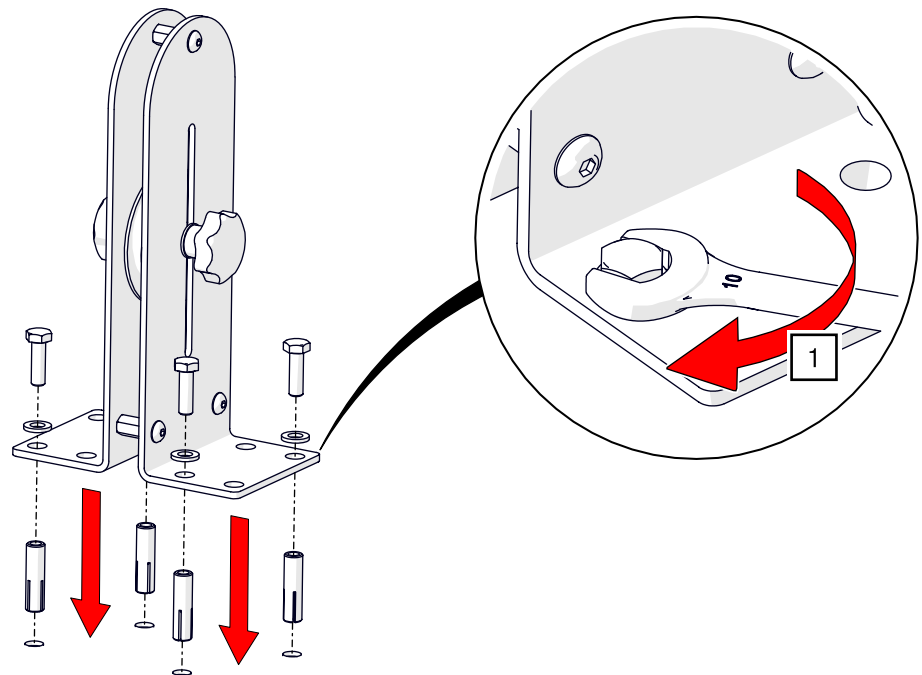

Fig. 87: Screwing counter-tension pulley to the floor
1. Screw the counter-tension pulley to the floor at the position exactly vertical below the cord exit of the track using mounting material suitable for the substrate (assembly according to the manufacturer's specifications; example concrete / screed – see Fig. 87).